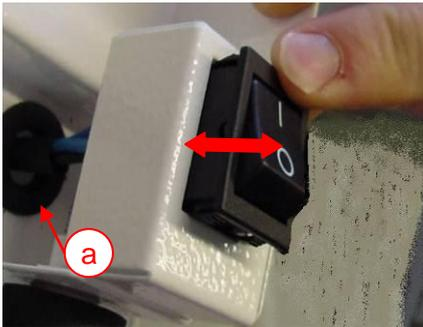

Fig. 33 – ON/OFF switch
- Lever the old switch out of the housing. It might be necessary to loosen the cables a little bit from the bushing (fig. 33 a.)
- Clip the new switch into the housing from front side. Push the wires back through the bushing (fig. 33 a)